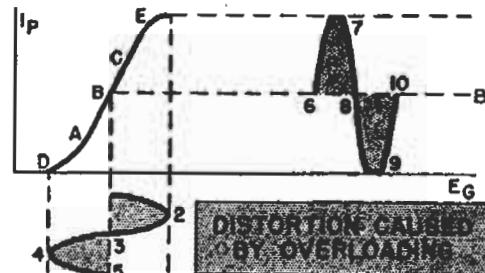
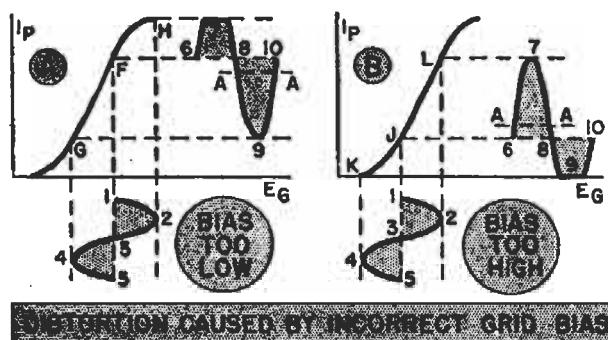
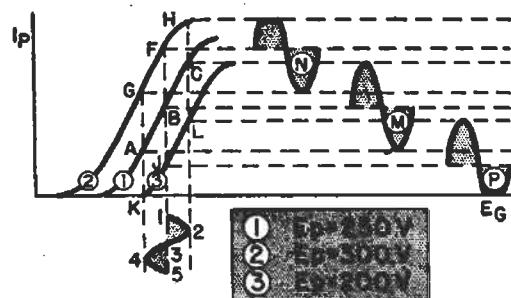

FIG. 3. Too high an input signal swings the operation into the curved regions so distortion occurs.
FIG. 4. Even with a normal signal input, too high or too low bias will shift the operating point so distortion occurs.
FIG. 5. Incorrect plate voltage can also move the operating point to where distortion becomes excessive.
**Overloading Effects.** Now suppose we have the same grid bias and plate voltage as for Fig. 2, but apply a larger signal to the grid so that we work into the upper and lower bends of the characteristic (Fig. 3). Here, the signal 1-2-3-4-5 swings the tube operation over range D-B-E, producing the out-
The output wave shape in Fig. 3 is still symmetrical, since the upper and lower halves are identical. As you
**Plate Voltage Changes.** Distortion like that in Fig. 4 will also occur if the plate voltage changes and the grid bias remains fixed. Fig. 5 shows how.
Remember that changes in screen voltage will have much the same effect as improper plate voltage. The distortion shown in Fig. 5 will occur if screen grid voltage changes make the tube operate over a curved part of its characteristic curve.
In Fig. 3, the average plate current is the line  $B-B$ . Again the change from 6 to 7 is equal to the change from 8 to 9, so the average plate current will not change. Therefore, the plate current will not tell us when a stage is over-
loading, if the overload causes an output like that in Fig. 3.
In Fig. 3, we chose an operating point exactly at the middle of the curve. If the actual operating point is higher or lower on the curve, an overloaded input will cause unequal half cycles and, again, a plate current shift. The direction of the shift depends upon whether we are higher or lower on the curve, as in Fig. 4.
Then on strong signals, the sensitivity of the r.f. section of the receiver will not be reduced by the a.v.c., so the signal voltage developed across the secondary of i.f. transformer  $T$  will become considerably greater than the d.c. bias across resistor  $R$ . This will allow the tube to operate on both the bends of its characteristic (as in Fig. 3), so both positive and negative signal peaks will be distorted just as if a distorted a.f. signal had been modulated on the carrier at the transmitter. This distorted signal will pass through the second i.f. transformer  $T_1$ , be rectified by the diode detector, and ultimately produce a distorted loudspeaker output. The following resonant circuits cannot correct for this as *both halves of the wave have been affected instead of just one half*.
► As another example, suppose there is no voltage across resistor 46, and the grid-cathode voltage of the 75 tube is normal as measured across resistor 61, yet distortion clears up when you touch the top cap of the 75 tube and the chassis. This, you have learned, shows excess bias—even though the bias appears to be correct. But remember, Fig. 5 showed that the correct bias depends on the plate voltage. Evidently, then, the plate voltage has decreased, so what appears to be a correct bias is actually excessive.